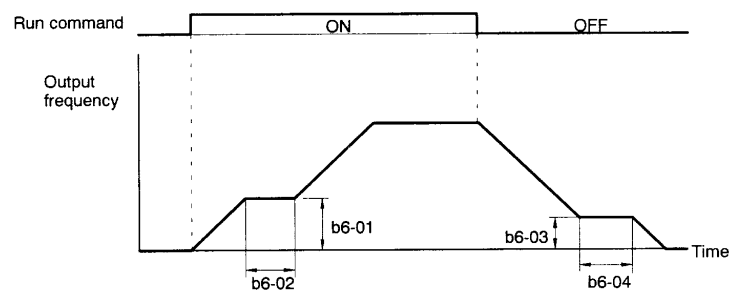

Figure 7.23 Timing Chart for Dwell Functions
- The relation between these constants is shown in *Figure 7.23*, below.